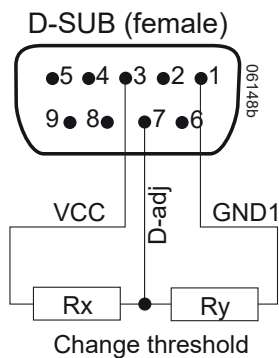

Fig. 20
Pin 7 of the D-SUB connector allows for adjustment of the threshold levels of D1 and D5. Both levels are influenced by the voltage divider R_x / R_y . Resistor R_x to pin 3 (VCC) lowers the levels, whereas R_y to pin 1 (GND1) increases them (see fig. 20).
Resistor R_{ext1} , connected between R (pin 2) and GND1 (pin 1) of the D-SUB connector or according to fig. 20.
Resistor R_{ext2} , connected between R (pin 2) and VCC (pin 3) of the D-SUB connector or according to fig. 20.
Note: If the R function is not included in M1 or M2, refer to figure 20 how to connect R_{ext1} or R_{ext2} .
b) Adjustment by an external control voltage V_{ext} (1.25 – 2.75 V), connected between R (pin 2) and GND (pin 1) of the D-SUB connector or according to fig. 20.